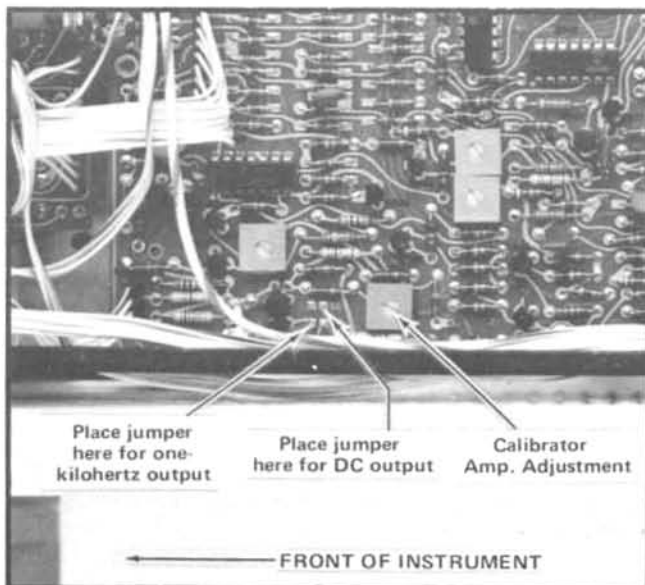

Fig. 2-8. Location of Calibrator adjustments (Cal-Storage board).
- a. Change jumper P1066 (see Fig. 2-8) to the DC position.
- d. ADJUST—4 Volts adjustment R1077 (see Fig. 2-8) for a meter reading of exactly 4 volts.
- a. Change jumper P1066 (see Fig. 2-8) to the AC position.